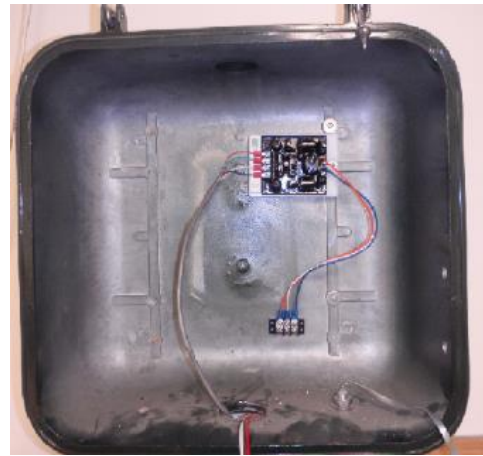

Figure 3. SPI Installed
2. Open the Pedestrian Signal Head Display and locate a ¼-20 tapped hole on the back wall close to the 120VAC three position barrier strip as shown in Figure 3.
3. Mount the SPI horizontally using a 1/4-20 1" FHP. It is important that the wires coming out of each side of the SPI sag below the SPI to prevent water from running down the wires, into the SPI. Figure 3 shows the drip loop in the 120 VAC lines and its location to the barrier terminal inside the Pedestrian Signal Head.